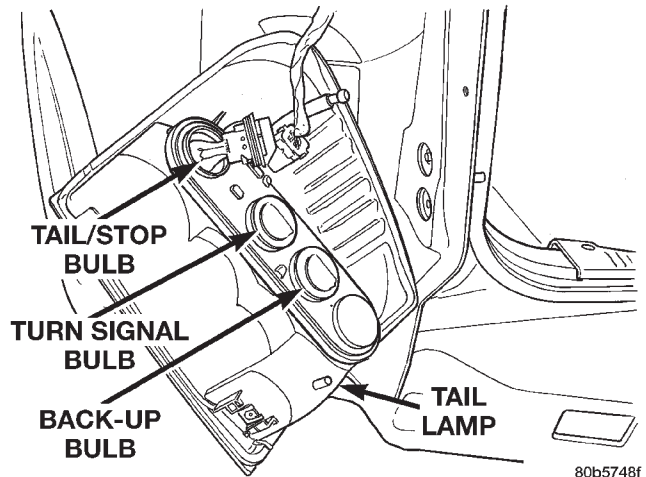

Fig. 3 Tail Lamp Bulbs
- (1) Remove tail lamp.
- (2) Grasp bulb socket and rotate counterclockwise.
- (3) Separate socket from lamp
- (4) Pull bulb from socket (Fig. 3).
- (1) Remove the tail lamp assembly.
- (2) Remove the bulb socket from the lamp (Fig. 3).
- (3) Grasp the bulb and remove.